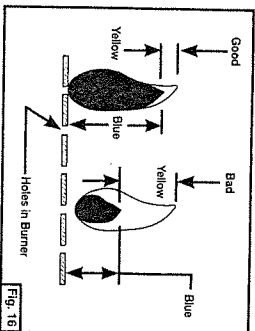

Fig. 16
- A good flame should be blue with minimal yellow tip. Some yellow tips on flames are acceptable as long as no carbon or soot deposits appear. (Fig. 16)